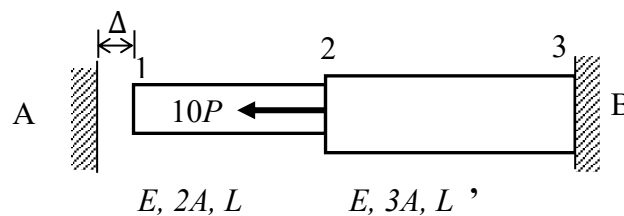

Figure 7
- (b). Derive the element stiffness matrices and global matrix for the two bars assembly which is loaded with force $10P$ at node 2 as shown in **Figure 7**. End bars are constrained at end B and free at end A with a gap of Δ at end A. Given the value of $P = 60$ kN, $E = 20$ kN/mm², $L = 200$ mm, $A = 250$ mm² and $\Delta = 1.2$ mm, determine: